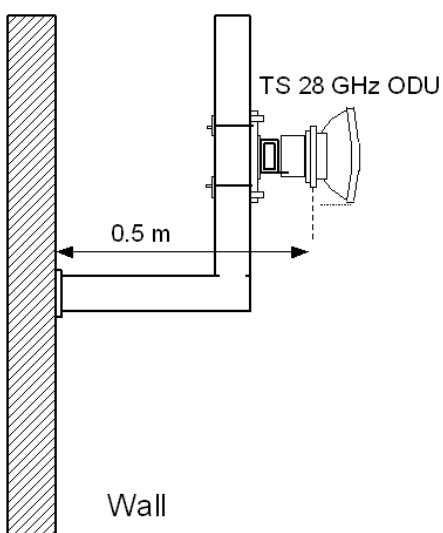

Figure 9-1: Mounting the 28 GHz TS ODU on a Wall
- If you need to mount the RFU on the wall of a building, you must ensure that the RFU-TS will be at least 0.5m away from the wall and no less than 15m above the ground as shown in Figure 9-1.